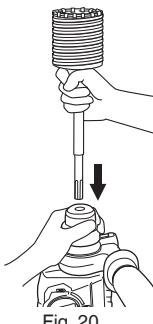

Fig. 20
(2) Mount the core bit to the rotary hammer (Fig. 20).